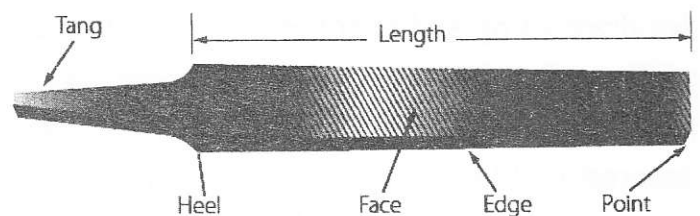

Figure 7.1.- Hand File
Files have three distinguishing features: (1) their length, measured exclusive of the tang (Figure 7.1); (2) their kind or name, which has reference to the relative coarseness of the teeth; and (3) their cut.
A drill is a tool fitted with a cutting tool attachment or driving tool attachment, usually a drill bit or driver bit, used for drilling holes in various materials or fastening various materials together with the use of fasteners (Figure 7.1).